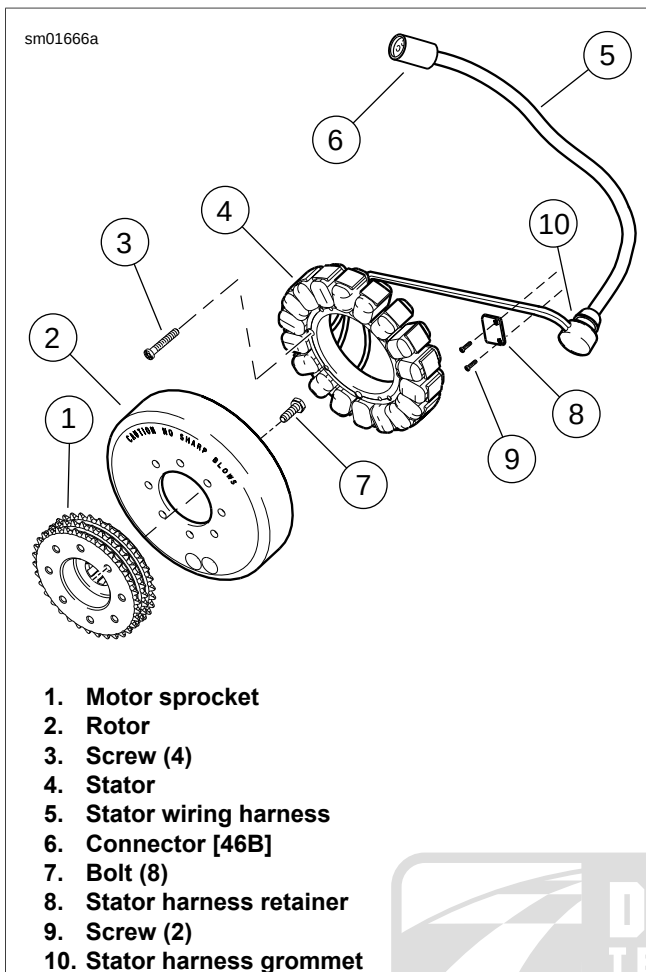

Figure 6-100. Alternator Components
4. See Figure 6-100. Using a T-27 TORX driver, remove and discard screws (3) securing stator to left crankcase half.
5. Remove two screws (9) and harness retainer (8).
6. Remove stator harness grommet (10) from left crankcase half.
- See Figure 6-100. Feed stator wiring harness (5) with attached grommet (10) into open grommet hole in left crankcase half.
- Position stator (4) on left crankcase half. Secure stator using **new** TORX screws. Use TORX driver to tighten screws to 30-40 **in-lbs** (3.4-4.5 Nm).
- Position stator harness retainer (8) over harness and onto engine crankcase with mounting holes facing aft. Secure with two screws (9). Verify that the harness is not pinched. Tighten to 56 **in-lbs** (6.3 Nm) (maximum). Do not exceed torque specification.